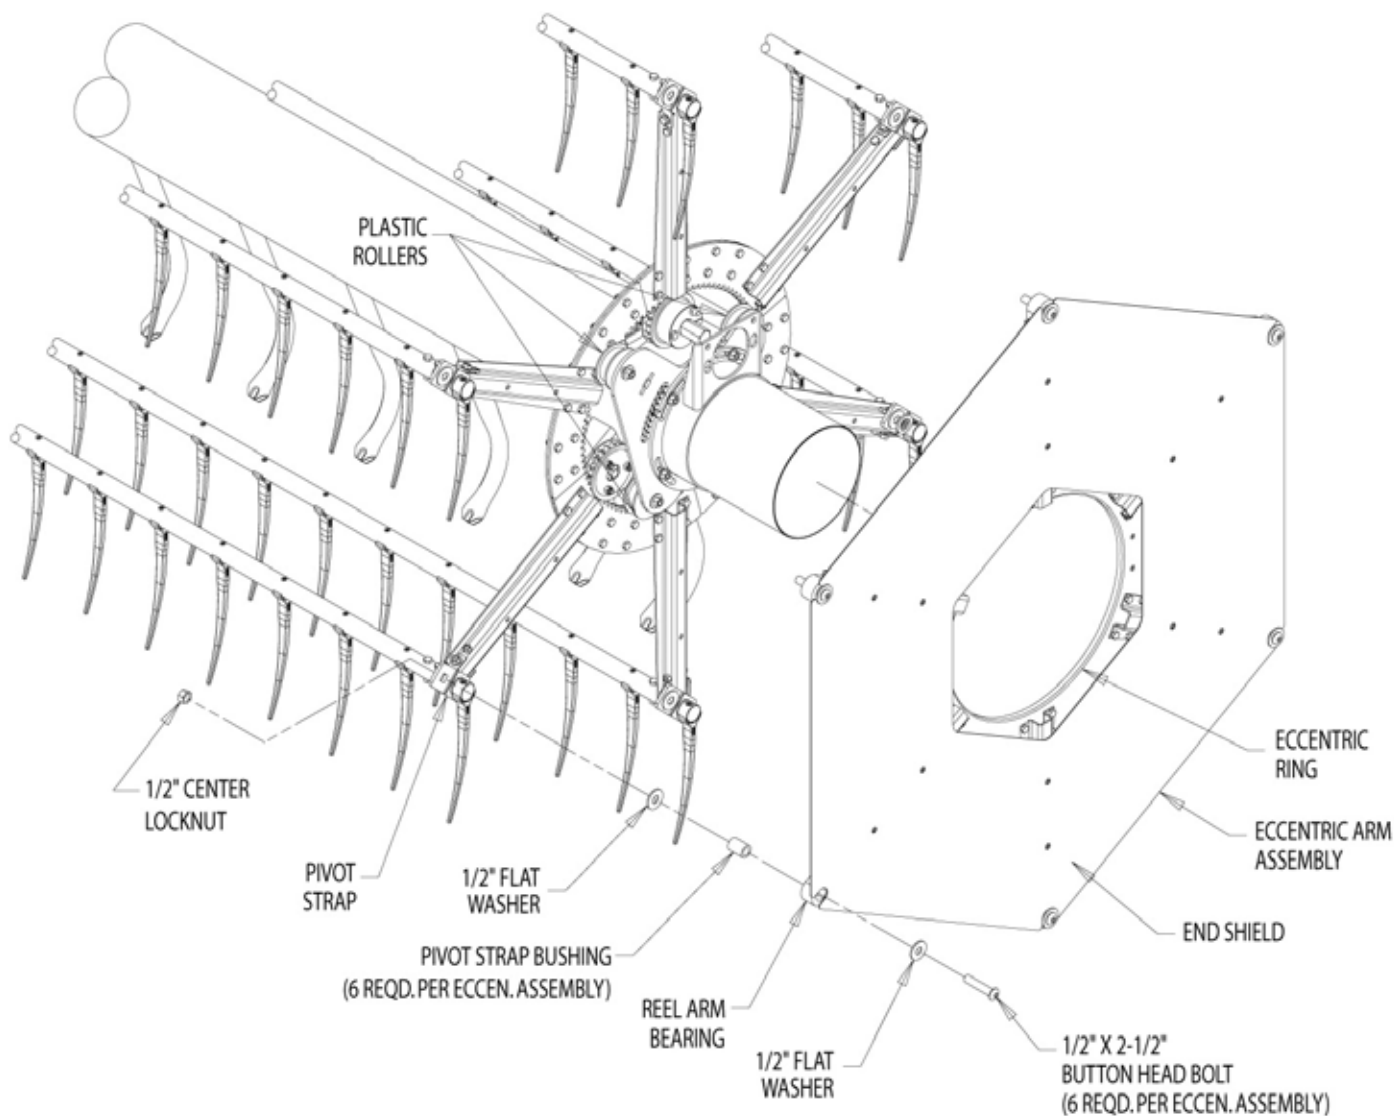

Figure 22, Eccentric arm installation
- Press a pivot strap bushing into each plastic bearing on the reel arms of the eccentric arm assembly (Figure 22).